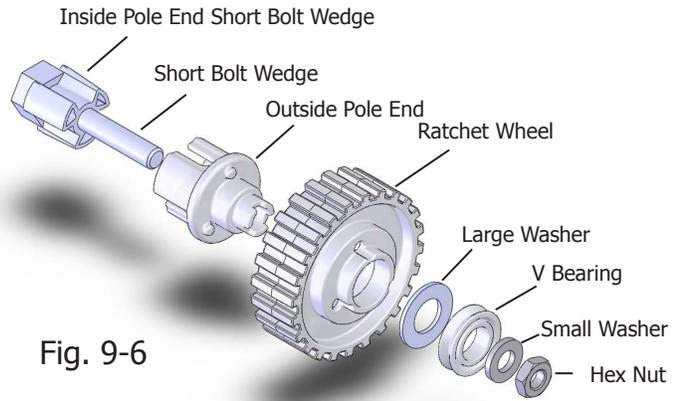

Fig. 9-6
**9-9:** Check the short-bolt ratchet-wheel assembly to ensure that it matches Fig. 9-6.